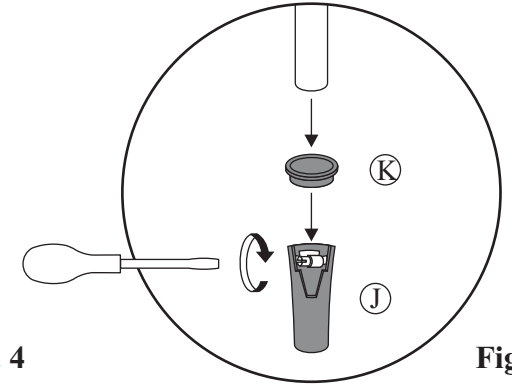
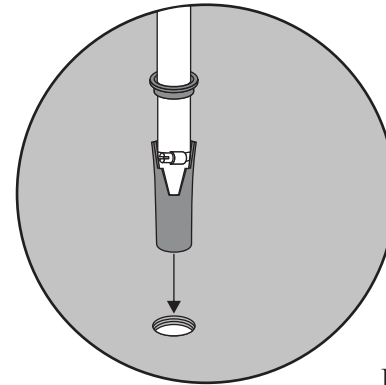

Fig. 5
Fig. 6
If you're using an umbrella, remove the umbrella ring from the tabletop as shown in **Fig. 4**. Guide the umbrella pole through the umbrella hole ring into the umbrella pole stopper (L). Use a screwdriver (not included) to tighten the bolt in the umbrella pole stopper as shown in **Fig. 5**. **Do not over tighten.** At this time, you can insert the umbrella pole into the hole of the table top as shown in **Fig. 6**.